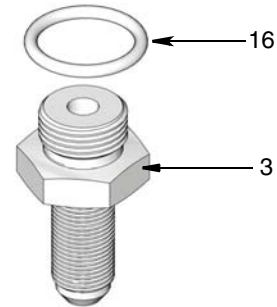

FIG. 3
3. Install o-ring (16) on bulk head fitting (3) as shown in FIG. 3.